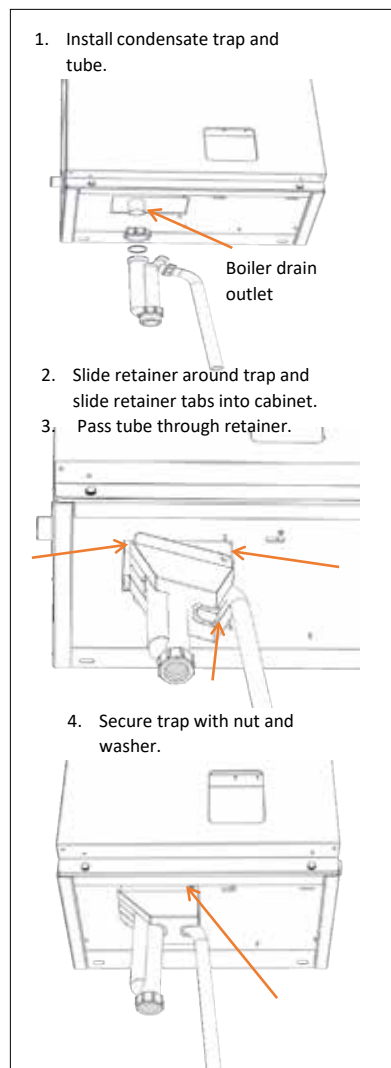

Figure 22: Condensate trap installation
A condensate trap must be installed on the drain connection at the base of the boiler as shown in Figure 22.
2. **Fill Trap with water**, and slide Trap Body (D) over Boiler Drain Outlet (A) - (see Figure 22).
4. Attach the Drain Hose (G), and then tighten the Drain Spout Compression Nut (E).